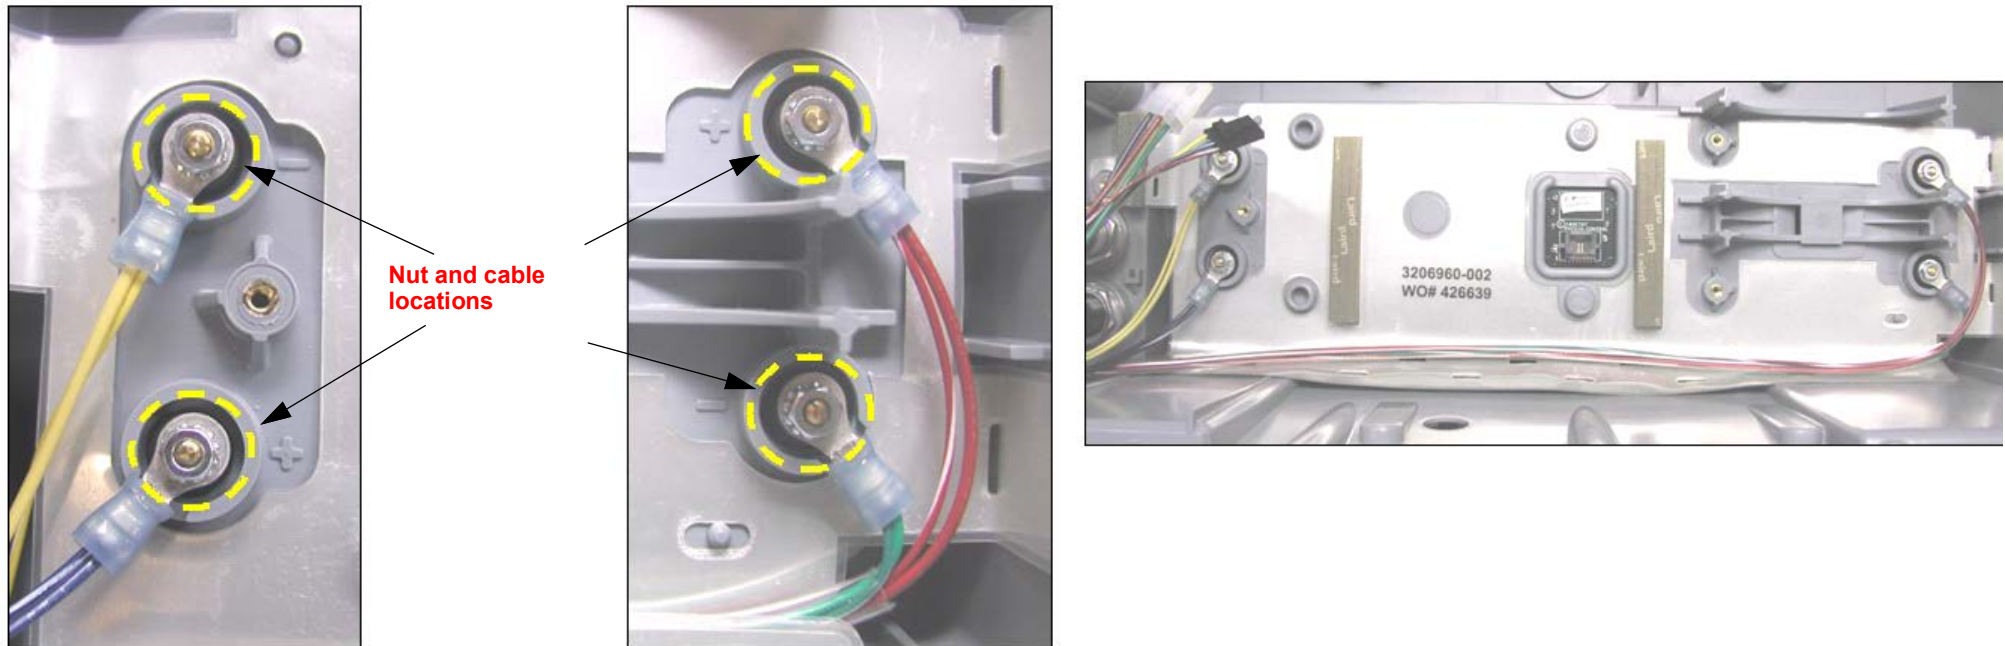
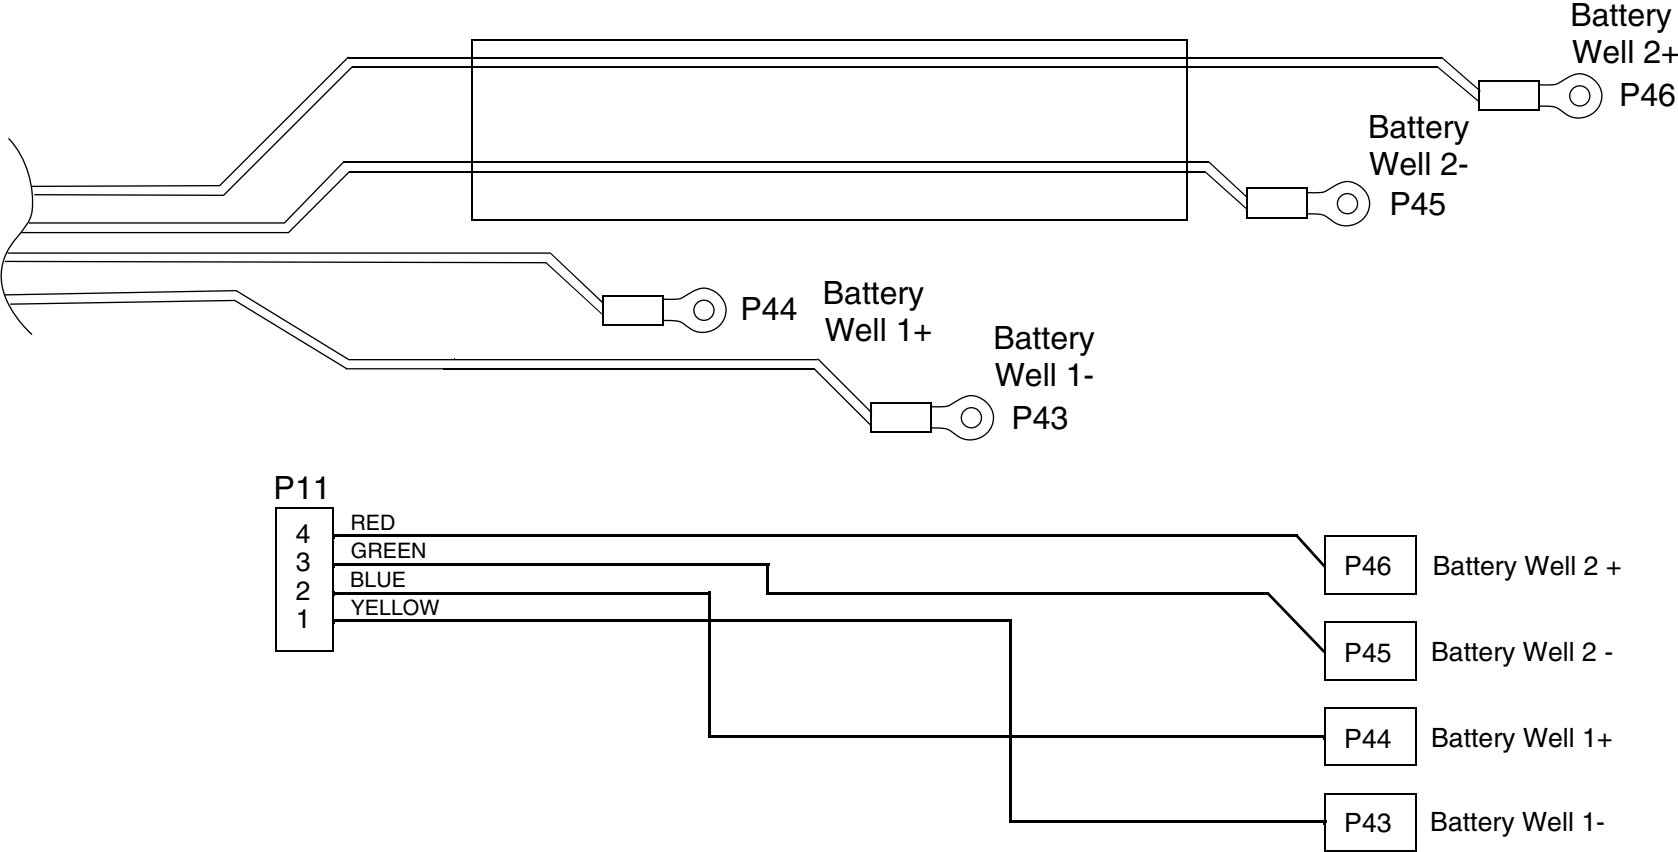

Figure 8.130—Power PCB cable nut and cable locations
Figure 8.132—V2 (REF A03)
Refer to Figure 8.130 on p. 346 and Figure 8.119 on p. 318.
2. Connect terminals P43 and P44 at Battery Well 1, and P45 and P46 at Battery Well 2 and replace the four nuts (REF F14) (torque to 4.0 in-lb using 1/4" socket and drive adapter). See Figure 8.130 on p. 346 and Figure 8.132 on p. 350.